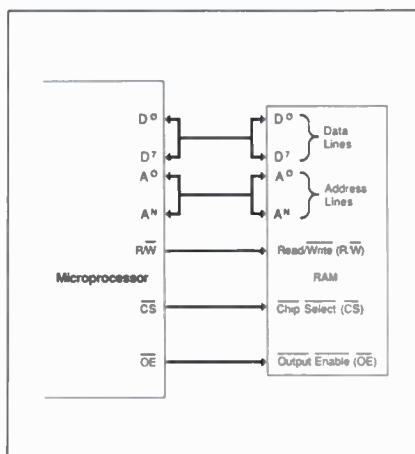

Fig. 1 Connections used between a microprocessor and Random Access Memory.
Fig. 1 shows how RAM connects up to a generic, microprocessor-controlled device. The *Data* lines carry information to be stored or retrieved. The *Address* lines are always inputs; the data on these lines specify the location in RAM where information is to be stored or retrieved. There are also a couple of logic inputs that determine the RAM's operational mode. *R/W* stands for Read/Write, meaning that you can either "write" data to a chip (e.g. save a voice patch) or "read" data from it (to the keyboard, so it can be played). Another important function is the *Chip Enable* (CE) input (also called *Chip Select*, or *CS*, input; we will use the two terms interchangeably). The CE allows us to expand our memory past a single chip by placing more ICs in parallel with the first chip, and using the CE to turn on a specific RAM. Thus, the data, address, and logic lines feed two or more RAMs, but data is only written in, or read from one of the RAMs. In many CMOS RAMs, disabling the IC places it in a *micropower mode* to reduce power consumption to an absolute minimum. In addition, some RAMs also have an *Output Enable* pin; this is similar to the CE input but affects only the *outputs* of an IC and determines whether or not they are active.
First, all RAM chips manufactured these days pretty much conform to the generic design in Fig. 1. The biggest difference between a 2K RAM and an 8K RAM is two additional address inputs needed to access the extra bits in the